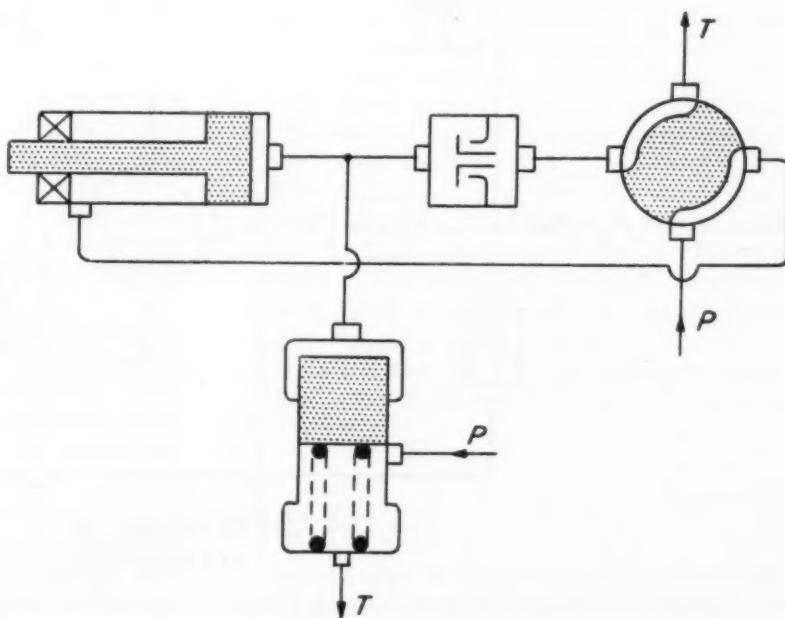

Fig. 124—System for a machine with a single cylinder which effects unloading with the sequence valves
*Fig. 124* shows a system applicable to a machine with a single cylinder, say a simple type of riveting press. While the cylinder is extended, or when it is left extended, pressure is available to close the unloading valve and keep it closed. Pressure is still available while the cylinder is being retracted, due to the restriction valve, but when retraction stops the unloading valve control connection is put to tank and the valve opens. At the cost of a few additional complications, the system could be extended to certain more difficult cases.
equivalent to that of *Fig. 124*, is shown in *Fig. 125*. The unloading valve is mechanically operated by the cylinder at the end of its retraction stroke, but becomes inoperative when the selector is moved to the extend position. Here, again, the problem of partial opening of the valve is met (unless the latter has trigger or snap action), but the valve will at least open to the extent required to reduce pressure to the value just necessary to move the cylinder at the end of the retraction stroke, which may well be low enough.